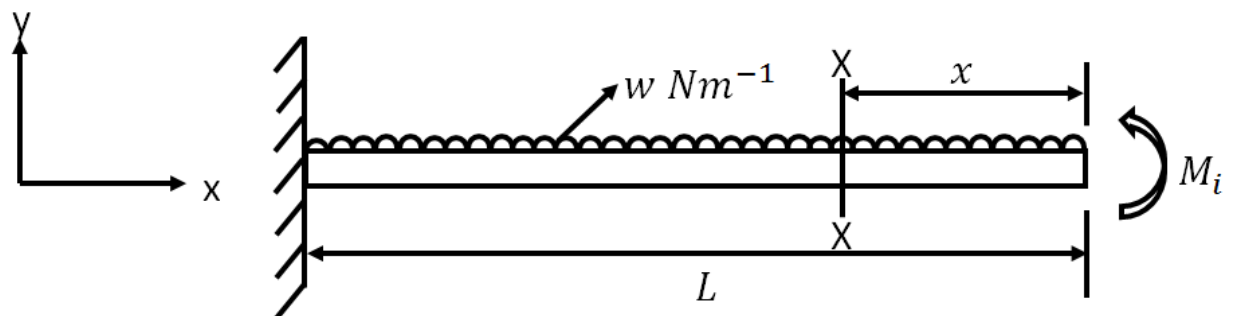

Fig. Q 5 (b)
- a. Derive the equation for the slope at the free end of a cantilever carrying a uniformly distributed load over its full length as shown in Fig. Q 5 (b) using Castigliano's theorem. [5 marks]